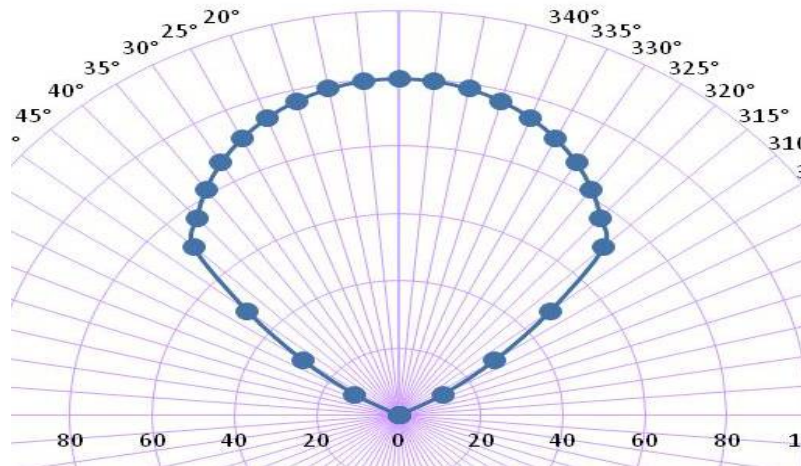

Figure 2-1
2. The installation shall take into account that the FS24X orientation should be with the base horizontal (see Figure 2-1) as the view angle in this direction is 90°. The vertical angle is 90°.
3. Detectors should not be mounted so that they look up or face the horizon (especially outdoors). Use a minimum thirty degrees (30°) downward angle with the SM4 swivel mount (see Figure 2-1).
5. The Model SM4 is a 316 Stainless Steel Swivel Mount designed for the Honeywell Analytics Detector housing. The adapter plate, with the two (2) screw holes (facing away), is attached to the base of the Detector (see Figure 2-1). The mounting plate, with the four (4) screw holes (facing towards), is used for mounting the SM4 to a solid surface. Each adjustment increment along an axis is calibrated to 10°. For single axis adjustments, the center section need not be installed.